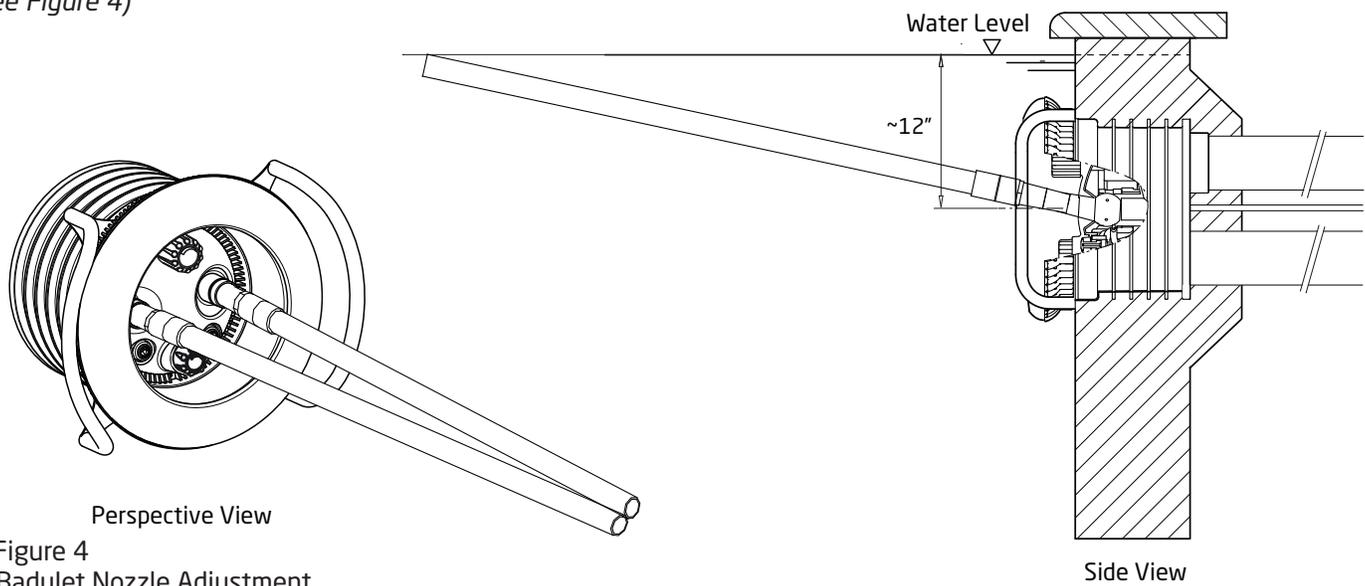

Figure 4
3. Once that is complete, bring the blue nozzle tool up to where the end of the nozzle tool breaks the surface of the water. Then bring the two nozzle tools together to meet. (See Figure 4)